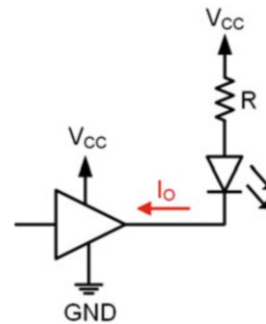

Fig. 3.43
3.4.57 For the LED driver configuration shown in Fig. 3.43 where an output of LOW on the driver will turn on the LED, what is the output current (I_O) if $V_{CC} = +5\text{v}$, $R = 50\ \Omega$, and the LED has a forward voltage of $V_f = 1.9\text{v}$?
3.4.58 For the LED driver configuration shown in Fig. 3.43 where an output of LOW on the driver will turn on the LED, what is the output current (I_O) if $V_{CC} = +5\text{v}$, $R = 100\ \Omega$, and the LED has a forward voltage of $V_f = 1.9\text{v}$?
3.4.59 For the LED driver configuration shown in Fig. 3.43 where an output of LOW on the driver will turn on the LED, what is the output current (I_O) if $V_{CC} = +5\text{v}$, $R = 1\text{k}\Omega$, and the LED has a forward voltage of $V_f = 1.9\text{v}$?
3.4.60 For the LED driver configuration shown in Fig. 3.43 where an output of LOW on the driver will turn on the LED, what is the output current (I_O) if $V_{CC} = +3.4\text{v}$, $R = 50\ \Omega$, and the LED has a forward voltage of $V_f = 1.9\text{v}$?
3.4.61 For the LED driver configuration shown in Fig. 3.43 where an output of LOW on the driver will turn on the LED, what is the output current (I_O) if $V_{CC} = +3.4\text{v}$, $R = 100\ \Omega$, and the LED has a forward voltage of $V_f = 1.9\text{v}$?
3.4.62 For the LED driver configuration shown in Fig. 3.43 where an output of LOW on the driver will turn on the LED, what is the output current (I_O) if $V_{CC} = +3.4\text{v}$, $R = 1\text{k}\Omega$, and the LED has a forward voltage of $V_f = 1.9\text{v}$?
- 3.4.63** For the LED driver configuration shown in Fig. 3.43 where an output of LOW on the driver will turn on the LED, if $V_{CC} = +5\text{v}$, $R = 75\ \Omega$, $V_f = 1.9\text{v}$, and $I_{O-MAX} = 25\text{ mA}$, is the maximum output current specification violated?
- 3.4.64** For the LED driver configuration shown in Fig. 3.43 where an output of LOW on the driver will turn on the LED, if $V_{CC} = +5\text{v}$, $R = 150\ \Omega$, $V_f = 1.9\text{v}$, and $I_{O-MAX} = 25\text{ mA}$, is the maximum output current specification violated?
- 3.4.65** For the LED driver configuration shown in Fig. 3.43 where an output of LOW on the driver will turn on the LED, if $V_{CC} = +5\text{v}$, $R = 500\ \Omega$, $V_f = 1.9\text{v}$, and $I_{O-MAX} = 25\text{ mA}$, is the maximum output current specification violated?
- 3.4.66** For the LED driver configuration shown in Fig. 3.43 where an output of LOW on the driver will turn on the LED, if $V_{CC} = +3.4\text{v}$, $R = 75\ \Omega$, $V_f = 1.9\text{v}$, and $I_{O-MAX} = 15\text{ mA}$, is the maximum output current specification violated?
- 3.4.67** For the LED driver configuration shown in Fig. 3.43 where an output of LOW on the driver will turn on the LED, if $V_{CC} = +3.4\text{v}$, $R = 150\ \Omega$, $V_f = 1.9\text{v}$, and $I_{O-MAX} = 15\text{ mA}$, is the maximum output current specification violated?
- 3.4.68** For the LED driver configuration shown in Fig. 3.43 where an output of LOW on the driver will turn on the LED, if $V_{CC} = +3.4\text{v}$, $R = 500\ \Omega$, $V_f = 1.9\text{v}$, and $I_{O-MAX} = 15\text{ mA}$, is the maximum output current specification violated?
- 3.4.69** For the LED driver configuration shown in Fig. 3.43 where an output of LOW on the driver will turn on the LED with $V_{CC} = +5\text{v}$ and $V_f = 1.9\text{v}$, calculate the value of the resistor (R) in order to set the current through the LED to be 5 mA .
- 3.4.70** For the LED driver configuration shown in Fig. 3.43 where an output of LOW on the driver will turn on the LED with $V_{CC} = +5\text{v}$ and $V_f = 1.9\text{v}$, calculate the value of the resistor (R) in order to set the current through the LED to be 12 mA .
- 3.4.71** For the LED driver configuration shown in Fig. 3.43 where an output of LOW on the driver will turn on the LED with $V_{CC} = +5\text{v}$ and $V_f = 1.9\text{v}$, calculate the value of the resistor (R) in order to set the current through the LED to be 15 mA .
- 3.4.72** For the LED driver configuration shown in Fig. 3.43 where an output of LOW on the driver will turn on the LED with $V_{CC} = +3.4\text{v}$ and $V_f = 1.9\text{v}$, calculate the value of the resistor (R) in order to set the current through the LED to be 5 mA .
- 3.4.73** For the LED driver configuration shown in Fig. 3.43 where an output of LOW on the driver will turn on the LED with $V_{CC} = +3.4\text{v}$ and $V_f = 1.9\text{v}$, calculate the value of the resistor (R) in order to set the current through the LED to be 12 mA .
- 3.4.74** For the LED driver configuration shown in Fig. 3.43 where an output of LOW on the driver will turn on the LED with $V_{CC} = +3.4\text{v}$ and $V_f = 1.9\text{v}$, calculate the value of the resistor (R) in order to set the current through the LED to be 15 mA .